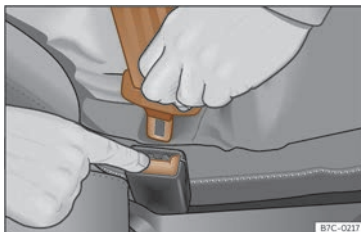

Fig. 24 Release the seat belt's latch plate.
- Press the red button on the buckle >>> **Fig. 24.** The latch plate is released from the buckle.